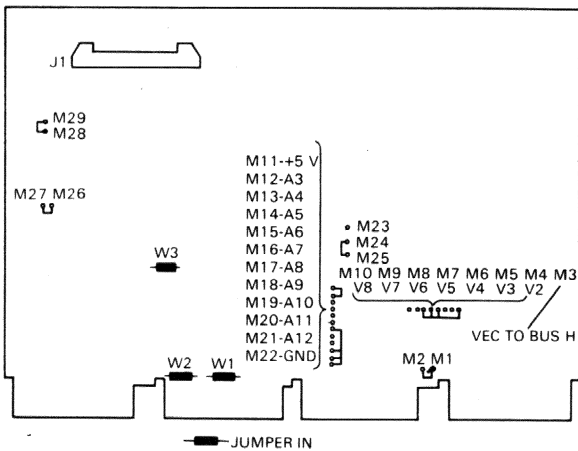

Figure 30 Jumper Locations
4. Check new PCB for jumper and switch position (see Figure 30)